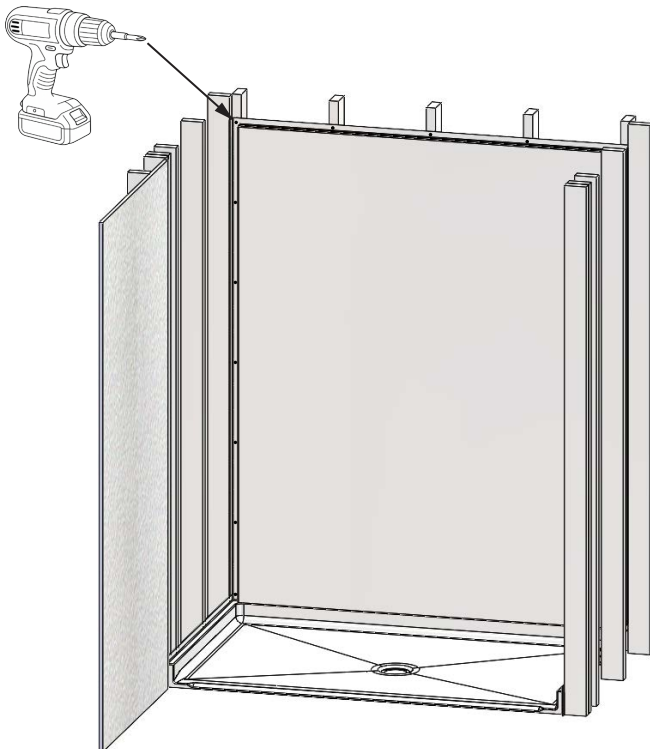

Figure 6
- 6a** Back Wall Installation. If the wall height was not altered, screw at the top nailing flange as shown in Figure 6. Then screw into the corner studs through channels as shown.